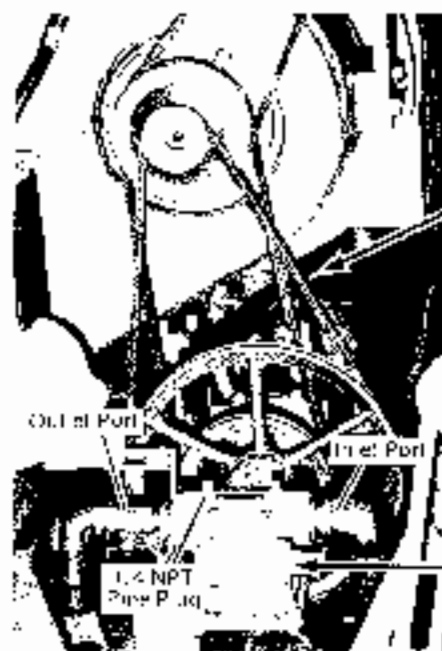

Figure 5 Oil Pump and Relief Valve (With Guard Removed)
Every 200 Hours (see Figure 5):
10. Remove the 1/4-NPT pipe plug from the INLET of the oil pump (see Figure 5) and squirt gear oil into the hole to prime the pump. Securely reinstall the pipe plug.
RELIEF VALVE ADJUSTMENT (see Figure 5)
CLEANING RELIEF VALVE (see Figure 5)